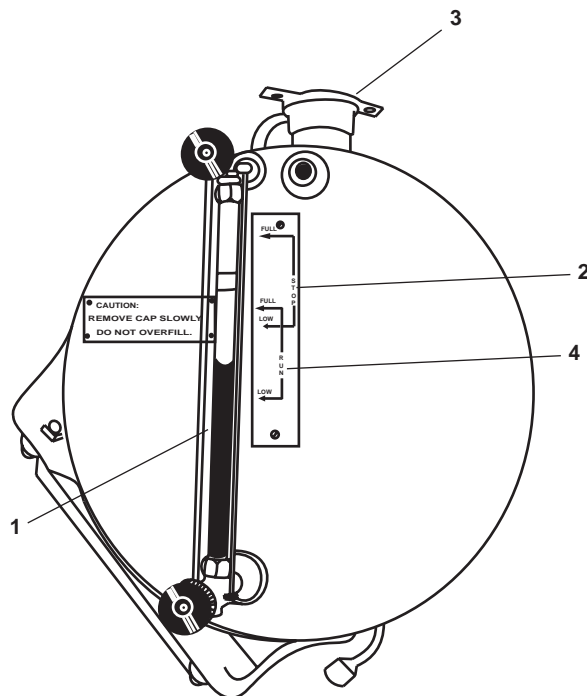

Figure 1. Main Engine Coolant Expansion Tank
2. Check that the coolant level in the starboard main engine coolant expansion tank sight glass (figure 1, item 1) is between LOW and FULL in the STOP range (figure 1, item 2). If the coolant is not between LOW and FULL, add coolant through the fill cap (figure 1, item 3) until the proper level is achieved. Proper engine coolant is a 50/50 mix of ethylene glycol antifreeze and water.